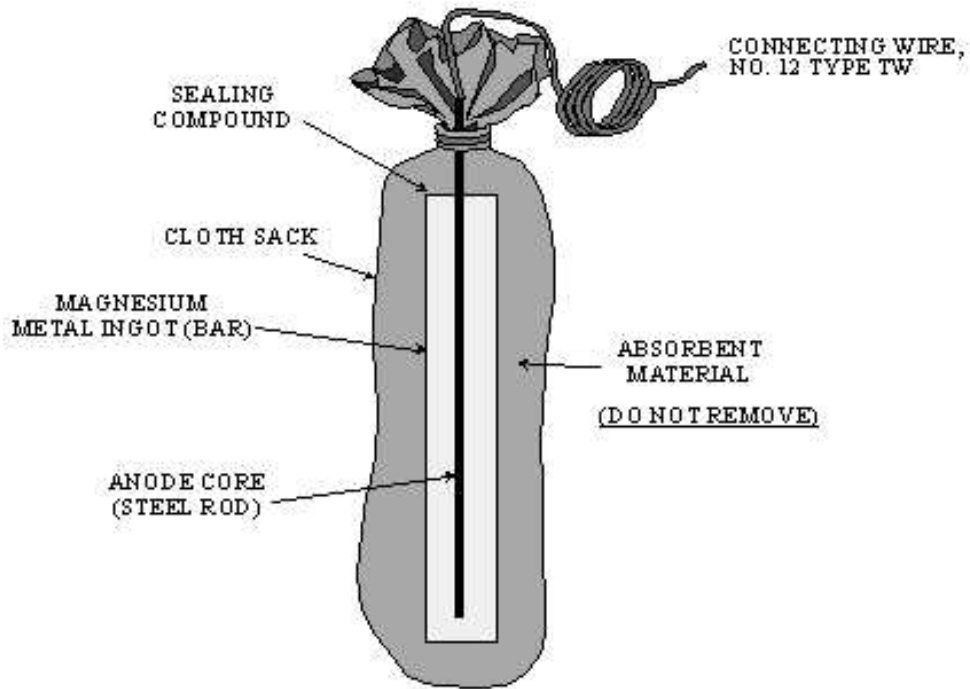

Figure VIII-2 Typical Magnesium (Mg) Anode
**Anode (sacrificial)** - An assembly consisting of a bag usually containing a magnesium or zinc ingot and other chemicals which is connected by wire to an underground metal piping system. It functions as a battery that impresses a direct current on the piping system to retard corrosion. (See Figure VIII-2.)